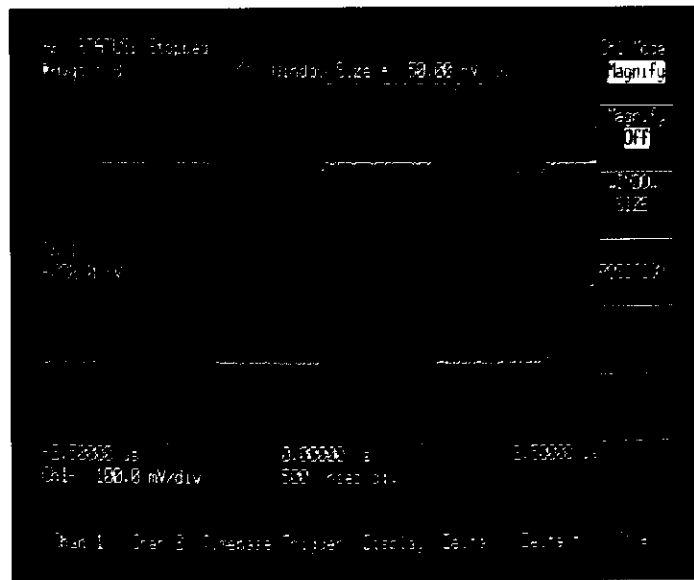

Figure 7-20. Magnify Window in the Normal Mode.
6. Select the magnify mode and adjust the WINDOW SIZE and POSITION so that the window is near the top of the cal signal (see figure 7-20).